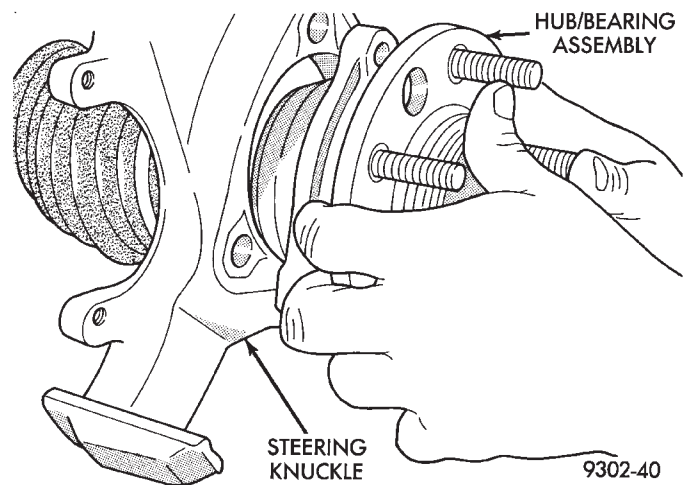
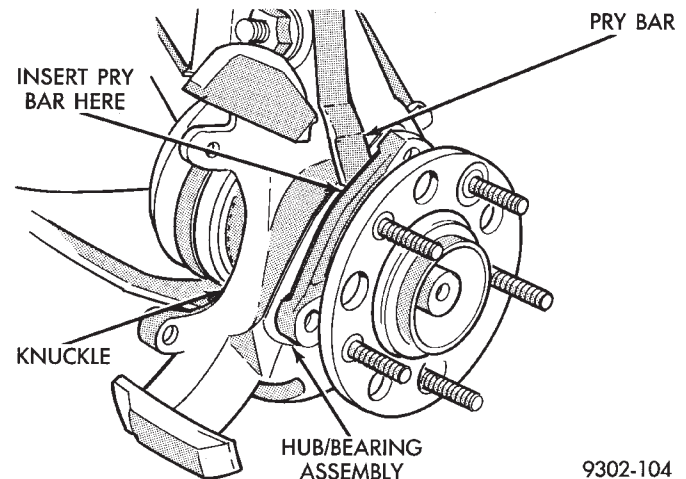

Fig. 8 Hub And Bearing Assembly Removal And Installation
Fig. 9 Prying Hub And Bearing Assembly From Steering Knuckle
(9) Remove hub and bearing assembly from steering knuckle. It is removed by sliding it straight out of steering knuckle and off end of stub axle (Fig. 8). If hub and bearing assembly will not slide out of knuckle. Insert a pry bar between hub and bearing assembly and steering knuckle (Fig. 9) and gently pry hub and bearing from knuckle. If stub shaft is frozen to hub and bearing assembly tap end of stub shaft with soft face hammer to free it from hub and bearing spline.